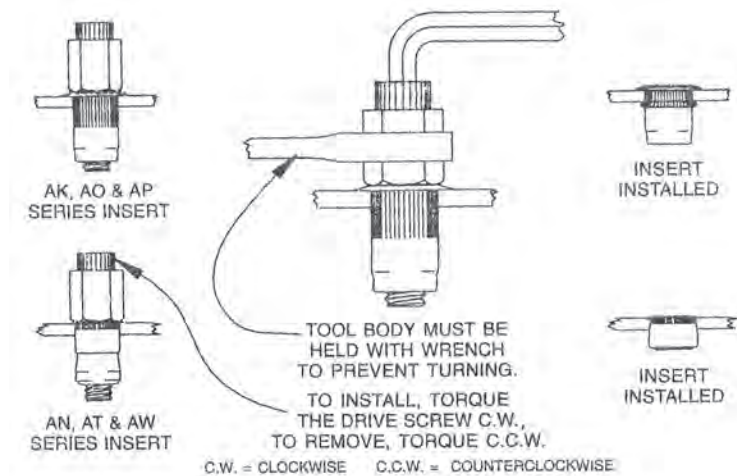

fig. 7
2. Assemble the rivet nut and rivet nut tool together and insert into the 17/32" hole. Review diagram below on how to attach the rivet nut to the vehicle. (Fig. 7)